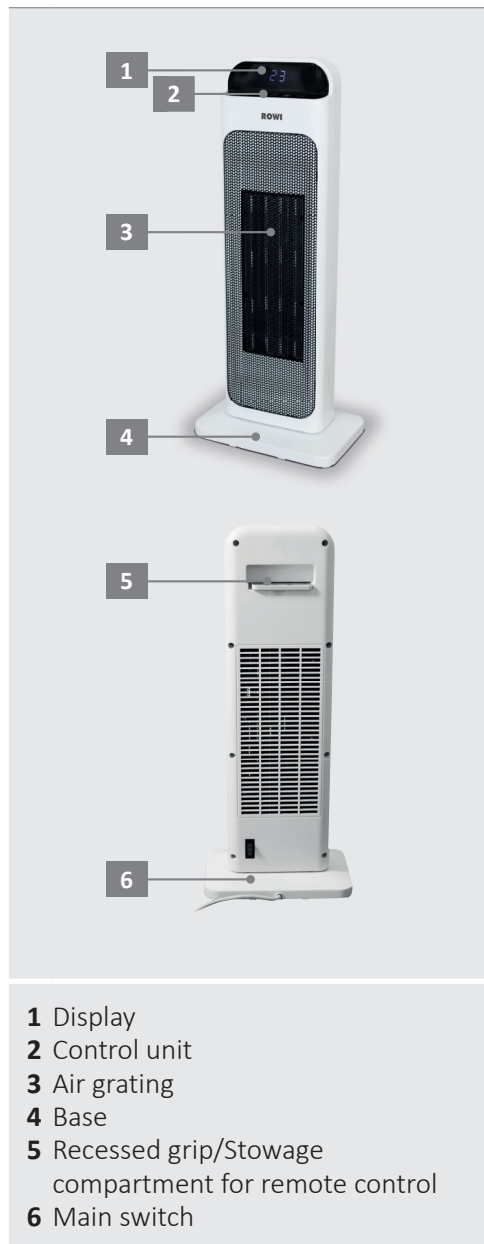

Fig. 1: Appliance overview
1. Make sure the **main switch** (see Fig. 1, No. 6) is at “0”. Then connect the ceramic tower heater to an earthed socket protected with an earth-leakage circuit breaker.
(All the following settings can be made via the control unit (Fig. 1, No. 2) or via the remote control provided. Lithium battery is included in the scope of supply (type CR2025; 3 Volt; 1 item)
2. Then operate the main switch (Fig. 1, No. 5) on the rear of the appliance to switch it off fully.